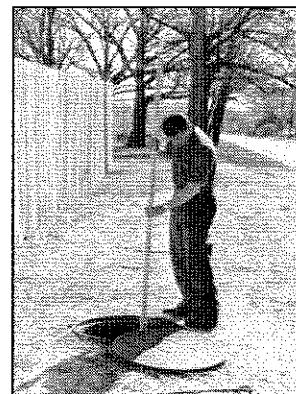

Figure 2
1. Lower measuring device (i.e. stadia rod) into Aqua-Swirl™ through service access provided. (See Figure 2)